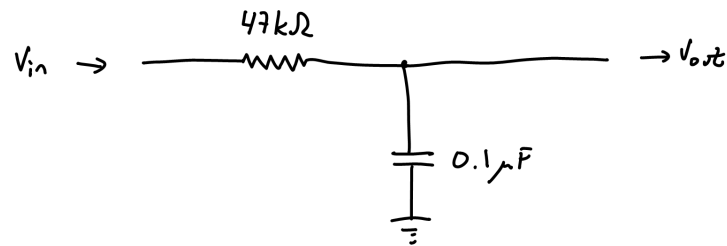

Figure 6: An RC circuit.
1. Consider the circuit in Figure 6. Calculate the rise-time, defined in this instance as the amount of time to go from 10%  $\rightarrow$  90% of the final value, for a step input (i.e., the input voltage jumps from 0V to 5V at some time,  $t_0$ ).